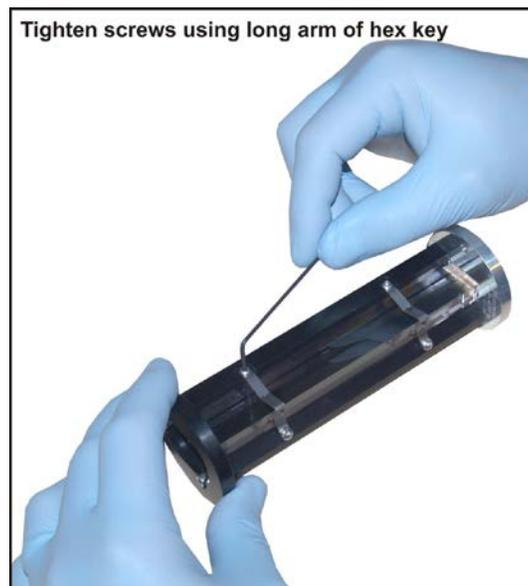

Figure 7 Secure Replacement Clips
9. With both clips in place tighten the top screws (**Figure 4/B&C**) using the long arm of the hex key (**Figure 7**) until they are snug and the spring clip is fully seated against the rod holder.